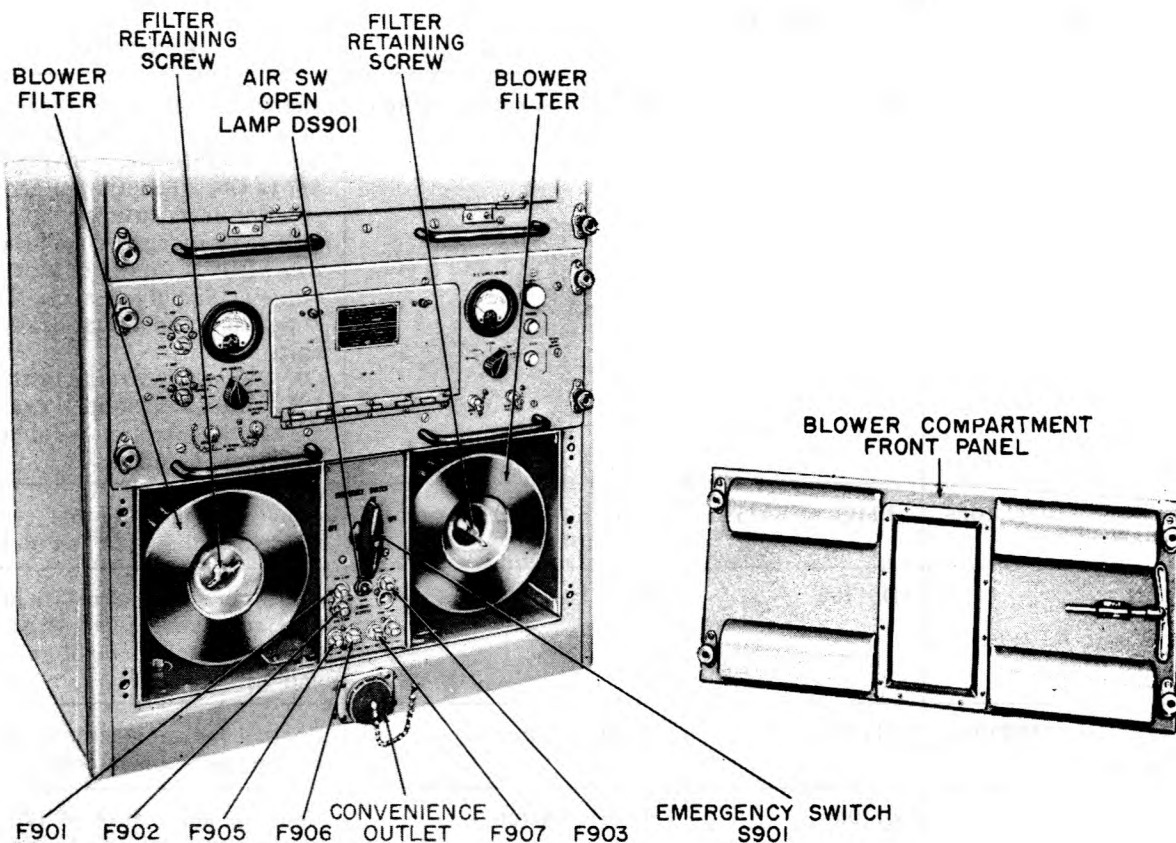

Figure 3-6. Cabinet CY-3163/GRN-9D, Blower Compartment
A description of each control and indicator in the receiver-transmitter group is presented in table 3-1. The controls and indicators are listed according to their physical location on the individual drawer units and their location on the cabinet (figure 3-6). Illustrations which will aid in the location of the controls and indicators are listed in the table.
ELECTRICAL EQUIPMENT CABINET CY-3163/GRN-9D (figure 3-6)
Step 3. Turn the EMERGENCY SWITCH S901 (fig 3-6) to ON (arrow pointing up or down). When EMERGENCY SWITCH is set to ON, both OVEN and NORMAL lamps on the front panel of the Frequency Multiplier Oscillator will light. After the oven has reached its operating temperature, the NORMAL lamp will go out. Thereafter, the NORMAL lamp will go on and off as the heating element in the crystal oven goes on and off to maintain the correct oven temperature. In those beacons where the Control Duplexer filter cavities are fitted with heating elements, the CAVITY HEATER ON lamp DS1105, on the Control Duplexer front panel, will go on and off as the heating element goes on and off.
(b) NORMAL STARTING. — Ordinarily, when the radio beacon is functioning normally, EMERGENCY SWITCH S901 (figure 3-6) is left at ON; that is, with the arrow pointing either up or down. The power on-off switches on the various units are left on. Power to the entire radio beacon is then under the control of MASTER SWITCH S1101 on the control-duplexer panel (figure 3-5). The radio beacon may be turned on, off, or placed in standby condition by means of this switch. The power on-off switches for the test set components mounted in the power supply assembly are normally left off, and are set to on only when the test units are to be used.